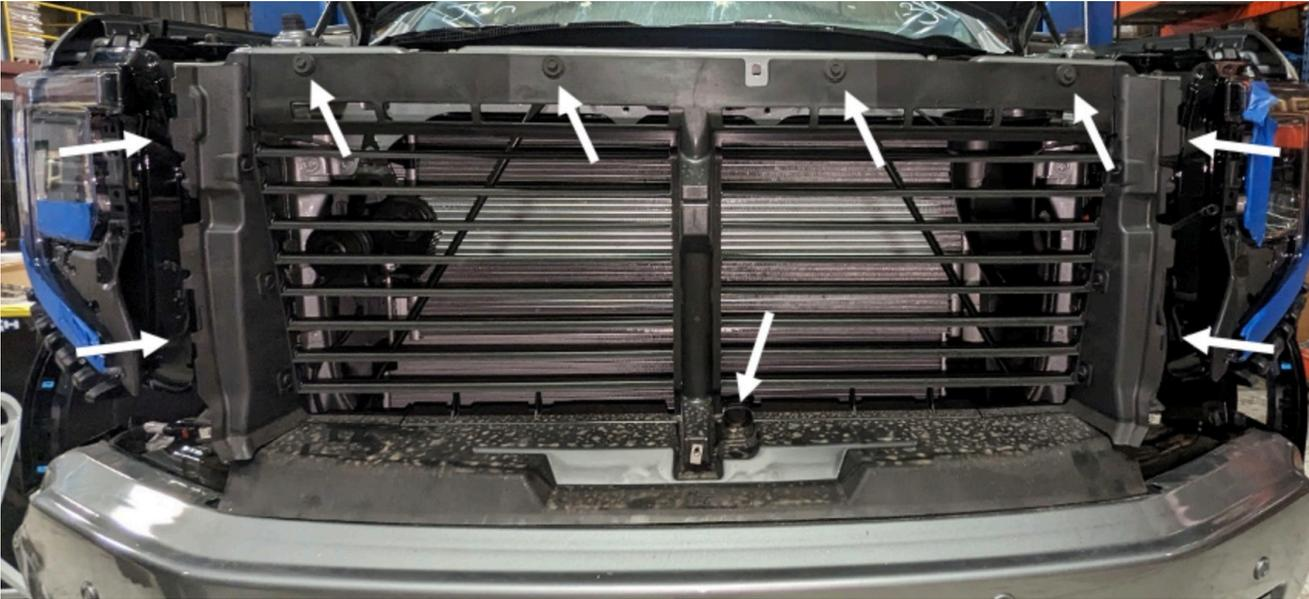

Figure 11
11. Using a 10mm socket wrench, remove the nine (9) screws around the perimeter of the upper louvers. Figure 11